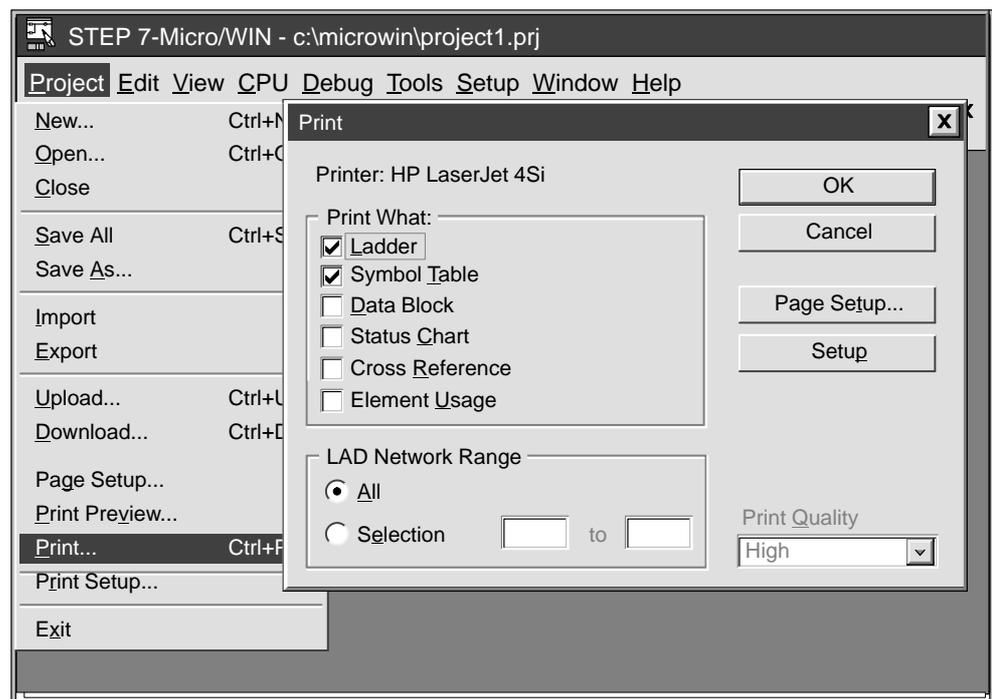

Figure 5-24 Print Dialog Box
- Select **Project ► Print...** to print your program. Select what you want to print, then click the “OK” button. See Figure 5-24.
1. Select **Project ► Print...**. The Print dialog box shown in Figure 5-24 appears.